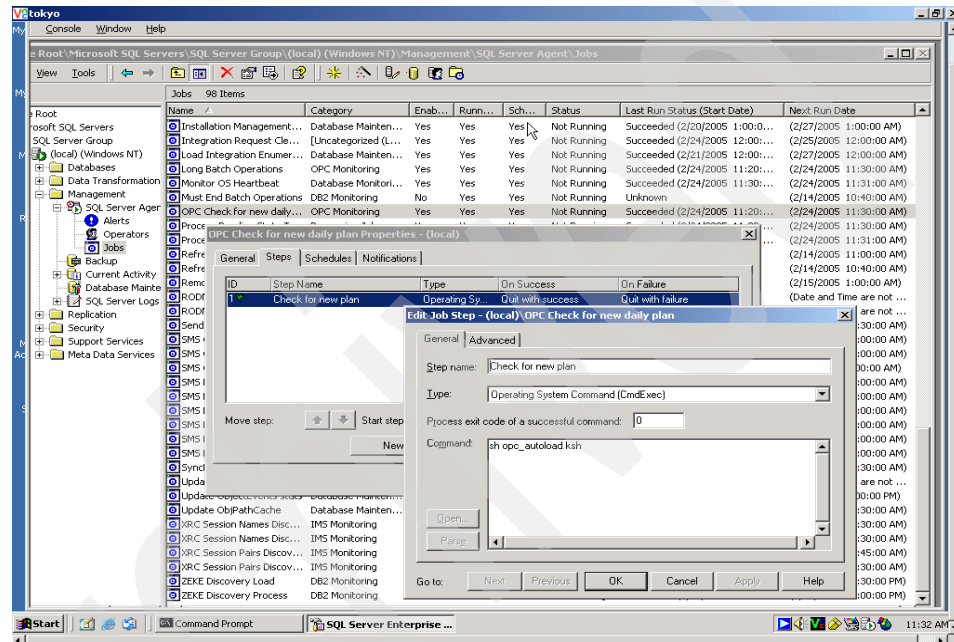

Figure 5-8 Changing text in job “OPC Check for new daily plan”
2. Change the job OPC Check for new daily plan to read `sh opc_autoload.ksh`, as shown in Figure 5-8.